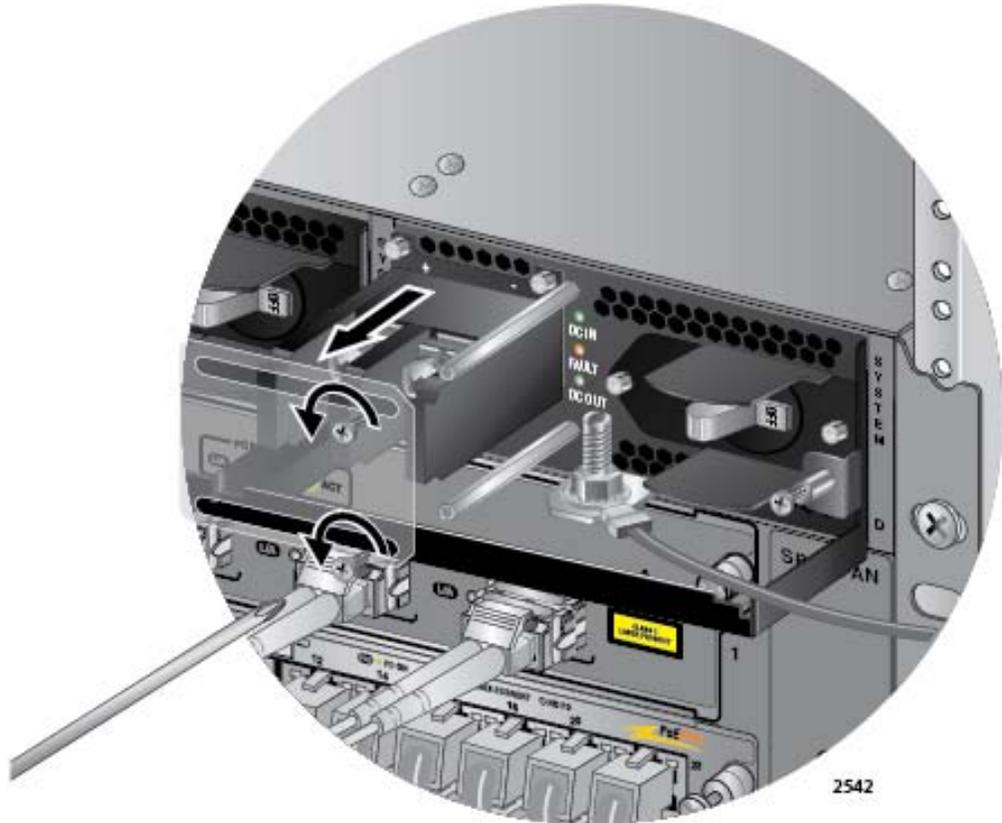

Figure 134. Removing the Plastic Cover
3. Using a #1 Phillips-head screwdriver, remove the two screws that secure the plastic cover over the positive and negative terminals and remove the plastic cover from the power supply, as shown in Figure 134. You may need to lift the locking handle slightly to access the bottom screw.